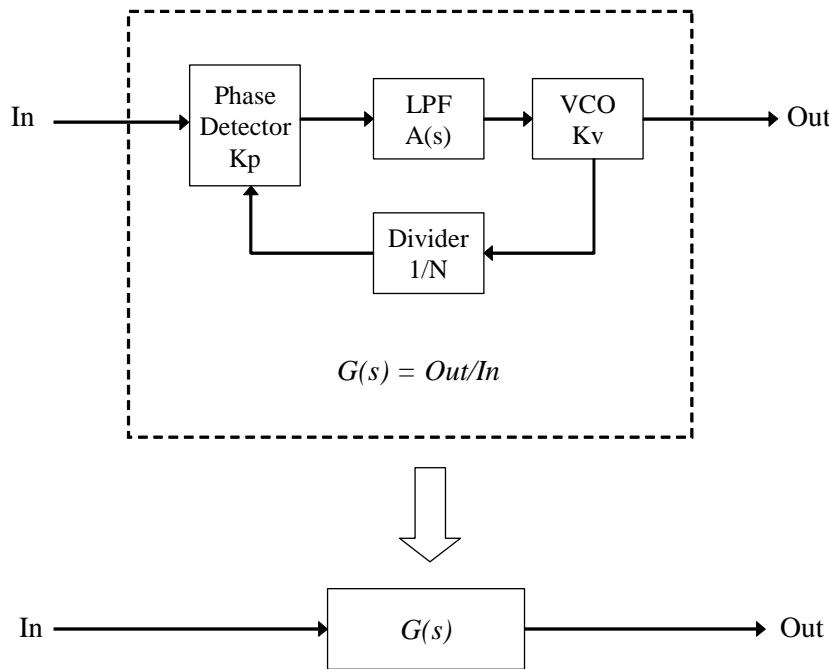

Fig.1 PLL Functional Block
Fig. 1 shows a simplified block diagram of generic phase locked loop (PLL). A PLL consists of the Phase Detector (PD), Low Pass Filter (LPF), Voltage Controlled Oscillator (VCO) and Frequency Divider (FD).
It should be noted that  $G(s)$  becomes the first order low-pass filter only when  $H(s)$  is constant, namely when  $H(s)$  is non-dependent on the frequency. This means that  $H(s)$  is no longer a low-pass filter in this case. On the contrary, it is well known that the PLL will not be stable without low-pass filter in place of  $H(s)$ . Therefore, the first order transfer function which is required by the HDMI CRU may not be realized by the PLL circuitry shown in Fig.1.